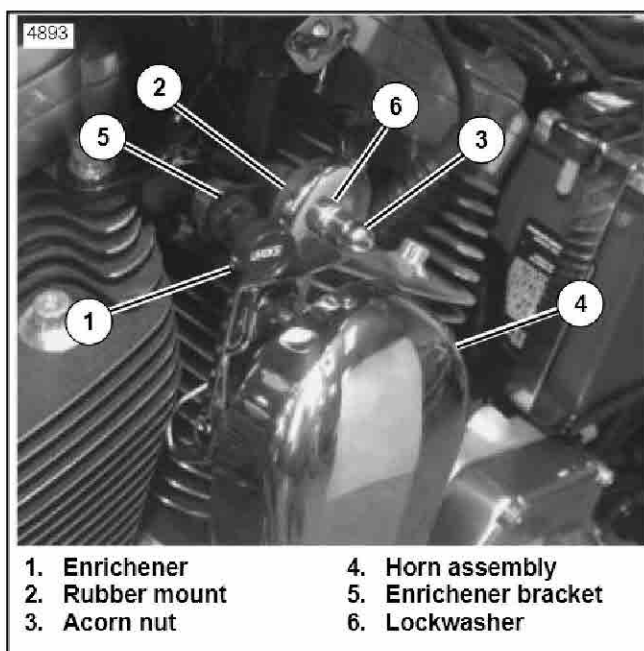

Figure 4. Horn Assembly Installation 1995 and Later Models
4. See Figure 4. Loosen nut on back of enricher cable. Remove enricher cover and relocate enricher (1) below engine bracket.